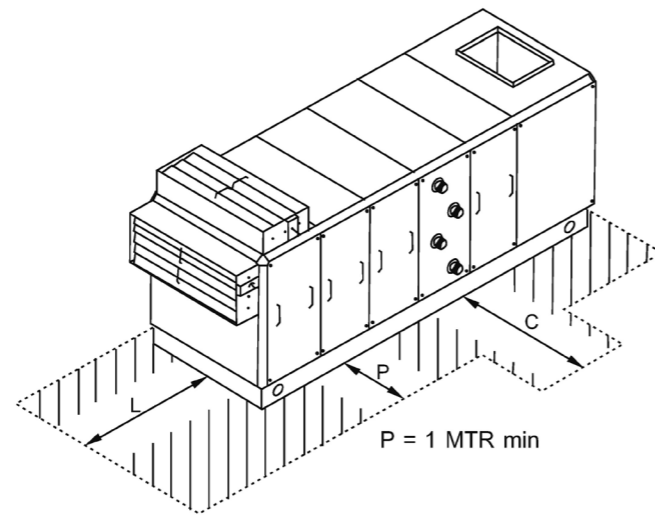

Figure 6
5. When the unit is positioned on site, there must be sufficient space around the unit to ensure that correct operation and effective maintenance can be carried out. Figure 6 gives recommended space allowances.
- On the designated access side of the unit, working areas must have minimum 1 mtr, space (P).